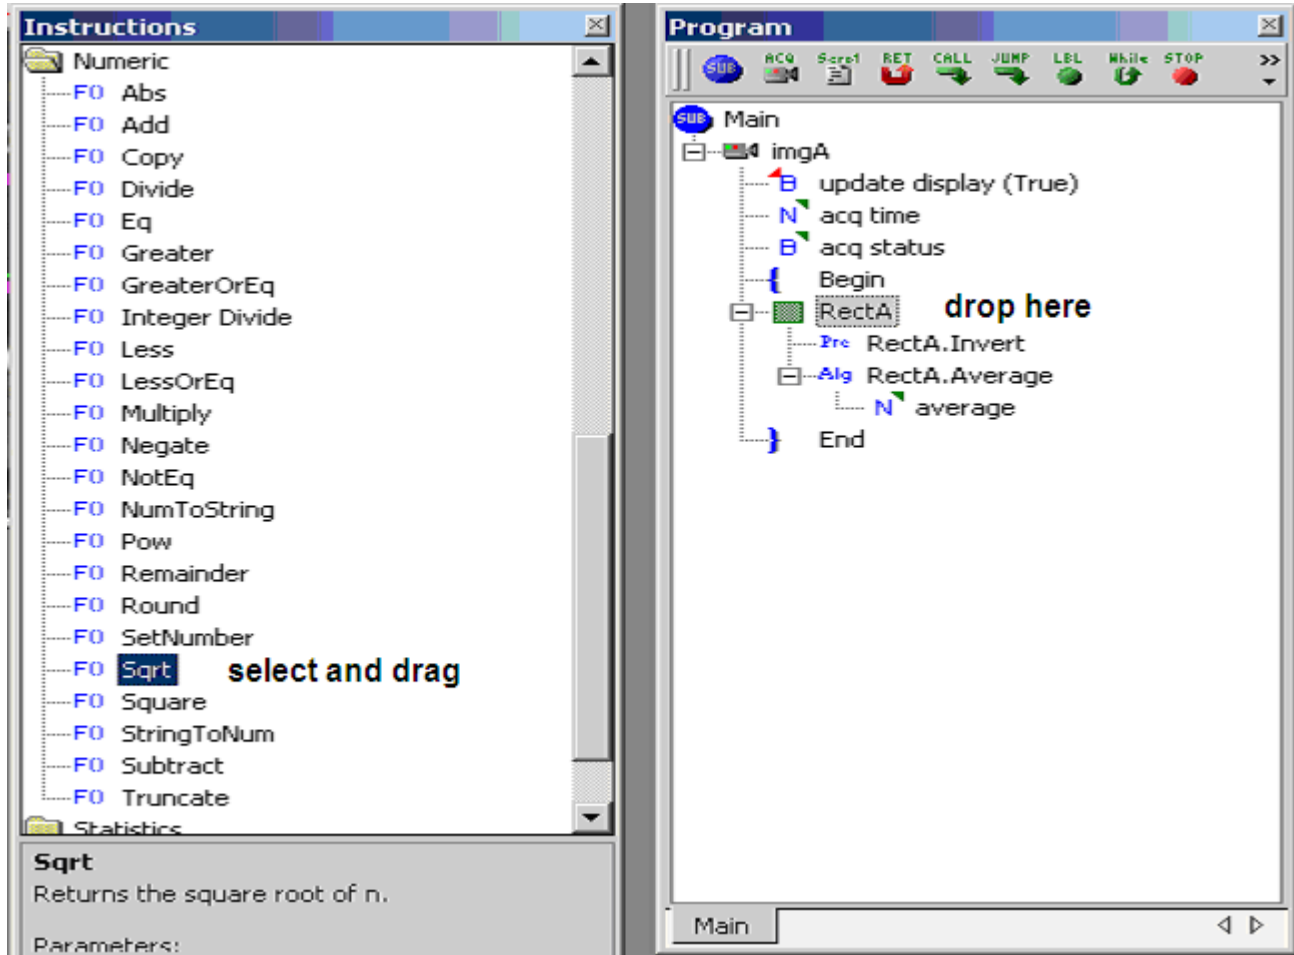

Figure 12. Drop the Formula onto the ROI
13. Click on “sqrt” drag it into the Program window, and drop it onto “RectA” (Figure 12).